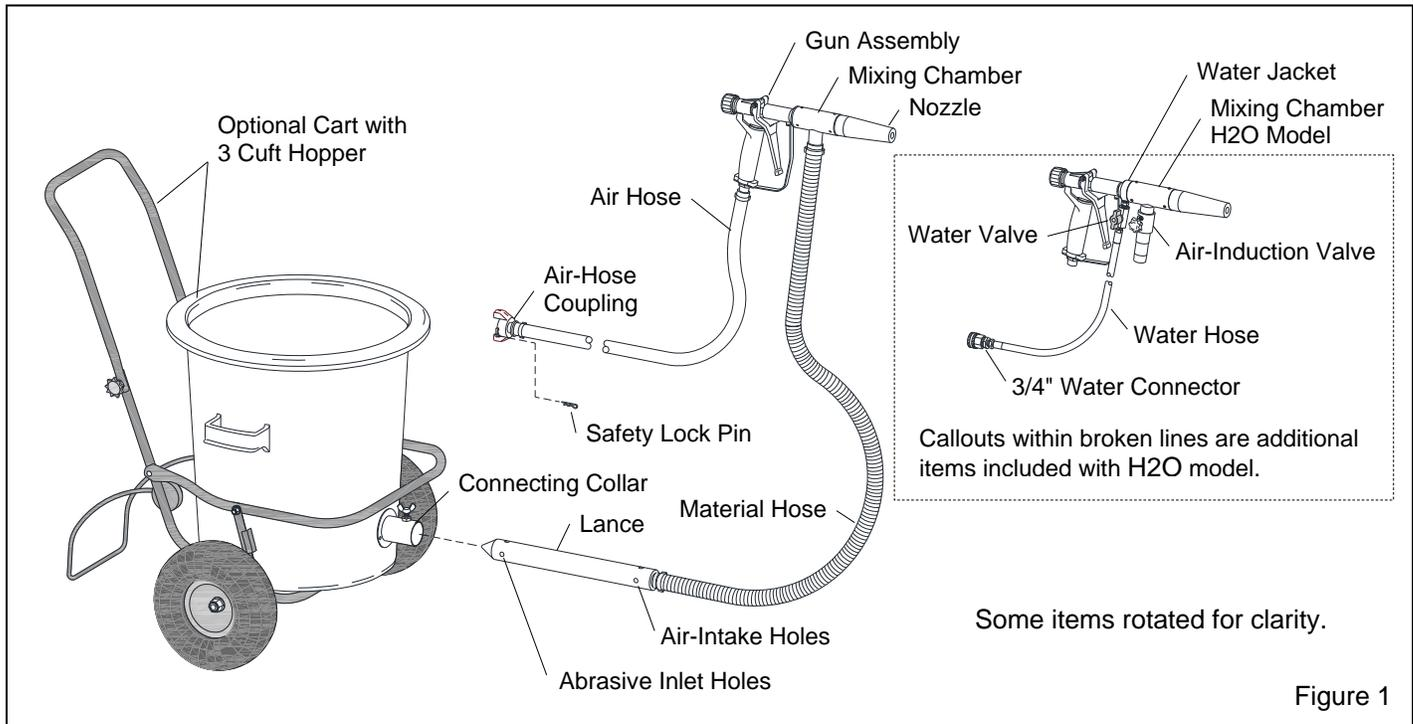

Figure 1
1.5.1.1 Components of the Power Guns are shown in Figure 1, the gun assembly is shown in Figure 2, and the additional parts for the Model H2O wetblast gun assembly are shown in Figure 3.
1.5.2.2 Besides being an effective dry blaster, additional parts provided with the H2O model (shown in the insert in Figure 1 and Figure 3) include a water jacket and hose, which attaches to a municipal water supply (faucet). When the water supply is turned ON, the water valve allows the operator to turn water ON and OFF and regulate the amount of water added into the mixing chamber and blast stream. Water entering the blast